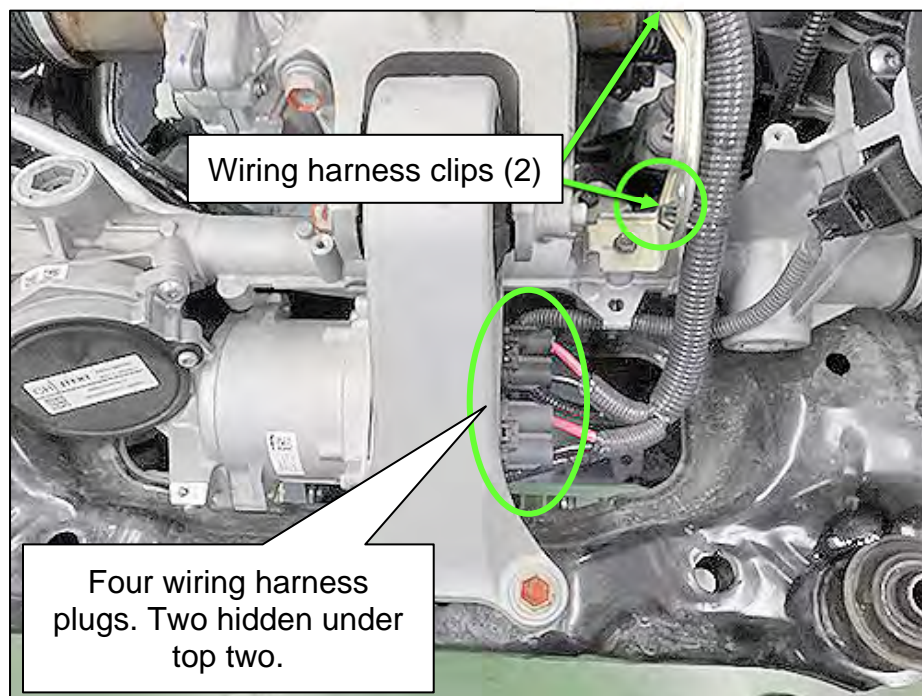

Figure 75
95. Remove the four (4) wiring harness plugs of the Electric Power Steering where shown in Figure 75.
96. Detach the two (2) Electric Power Steering wiring harness clips (1 hidden in Figure 75).